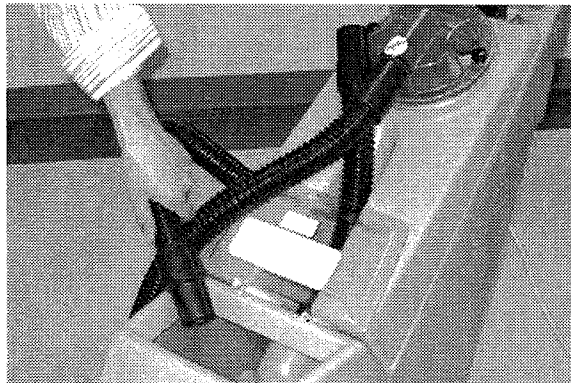

FIG. 11
1. When finished cleaning, use clean-out hose to vacuum remaining water from solution tank. Attach one end to recovery dome. Turn on Master switch and use other end to vacuum water (Figure 11).